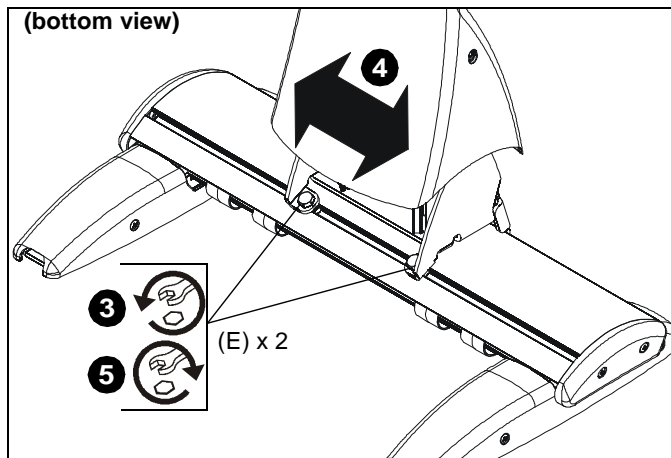

Figure 41
3. Loosen two 1/4-20 x 5/8" hex head cap screws (E) on underside of mounting bracket. (See Figure 41)
4. Adjust projector arm laterally to desired position. (See Figure 41)
5. Tighten two 1/4-20 x 5/8" hex head cap screws loosened in Step 3. (See Figure 41)